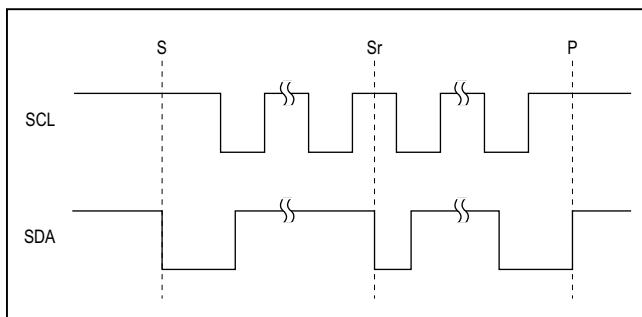

Figure 2. I²C START, STOP and REPEATED START Conditions
When writing to the MAX14646/MAX14647 using I²C, the master sends a START condition (S) followed by the MAX14646/MAX14647 I²C address. After the address, the master sends the register address of the register that is to be programmed. The master then ends communication by issuing a STOP condition (P) to relinquish control of the bus, or a REPEATED START condition (Sr) to communicate to another I²C slave. See Figure 2.